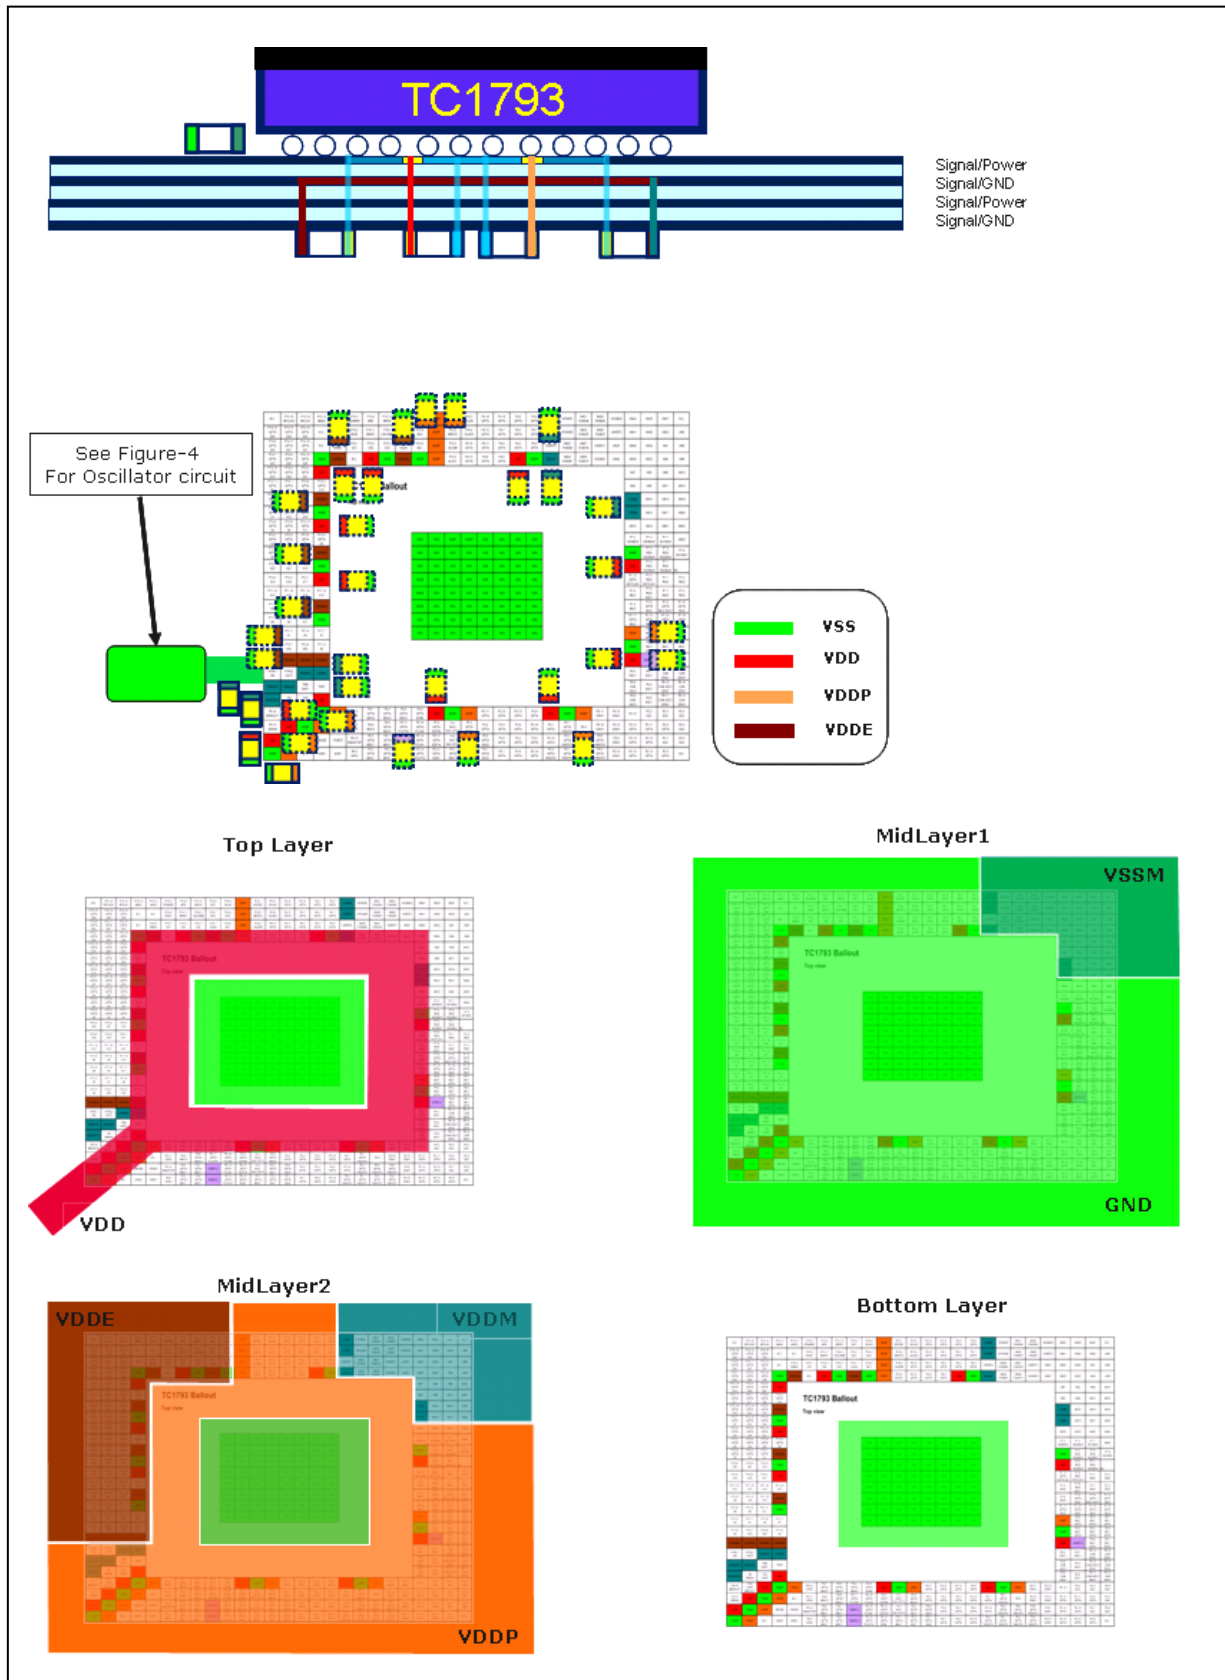

Figure 3 Capacitor Placement Example for Decoupling of TC1793 (BGA-416) on a four layer board
- The three supply domains VDD, VDDP and VDDEBU of TC1793 should be decoupled separately (see decoupling placement example in Figure 3).
In Figure 3 shown examples are based on device power supply concept and implementation. Alternative implementations are also acceptable and must be evaluated within application by customer.